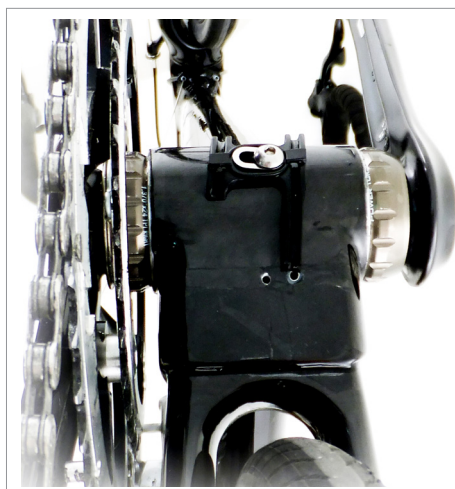

Fig.1
- Check that the Campagnolo® plate (Fig. 1) is fitted under the bottom bracket shell.